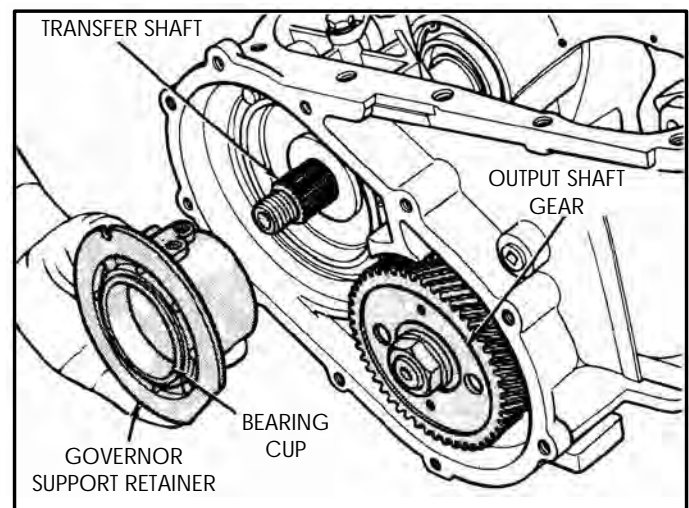

Figure 199
15. Install the governor support bearing retainer in case, as shown in Figure 199.